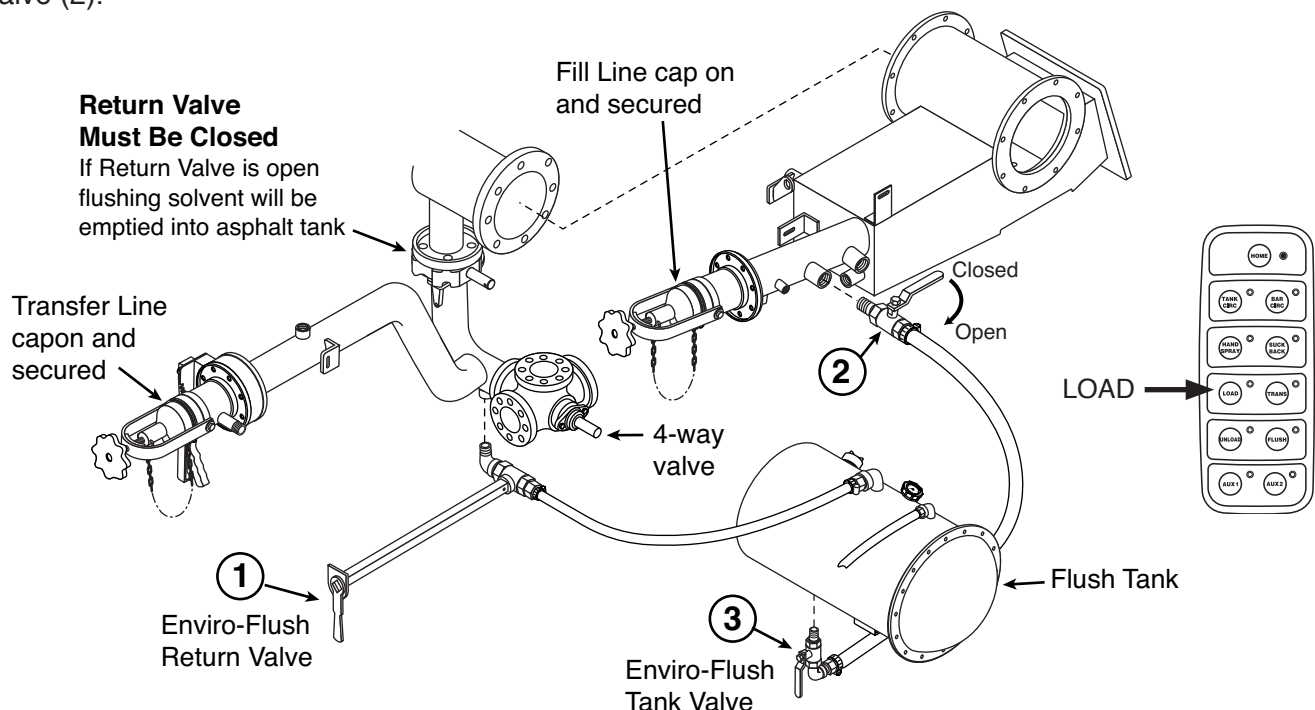

Figure 21. Recirculating Flushing System Operation
Refer to **Figure 21** for the following procedures.
5. Open all three Enviro-Flush valves in order (see **Figure 21**): The Enviro-Flush Return Valve (1), then the Strainer Box Valve (2) and finally the Enviro-Flush Tank Valve (3).
6. After 1-2 minutes close the Enviro-Flush Tank Valve (3) and then the Strainer Box Valve (2).
14. Close the Enviro-Flush Return Valve (1).
5. Open the Strainer Box Valve (2) and then the Enviro-Flush Tank Valve(3). See Figure 21.
6. When the desired amount of material is removed from the Enviro-Flush Tank close the Enviro-Flush Tank Valve (3) and then the Strainer Box Valve (2).